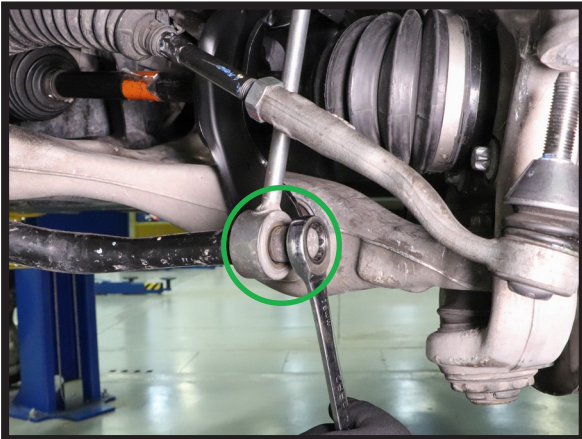

FIGURE 7
8. DISCONNECT SWAY BAR LINKAGE AND REMOVE. (FIGURES 7, 8)